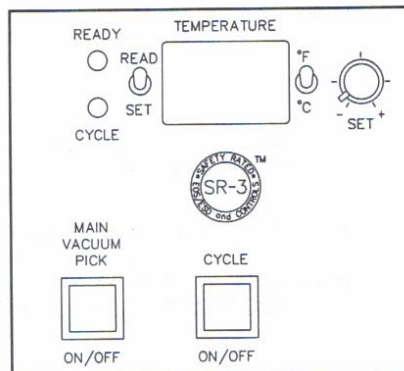

Figure 24.
11. Actuate **MAIN VACUUM PICK** Switch. Refer to Figure 24.